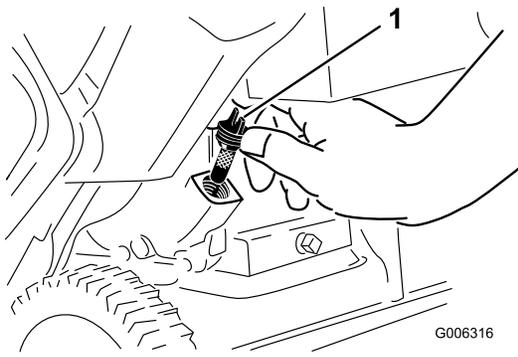

Figure 30
- Clean around the oil fill cap (Figure 30).
7. Unscrew the oil fill cap and remove it (Figure 30).